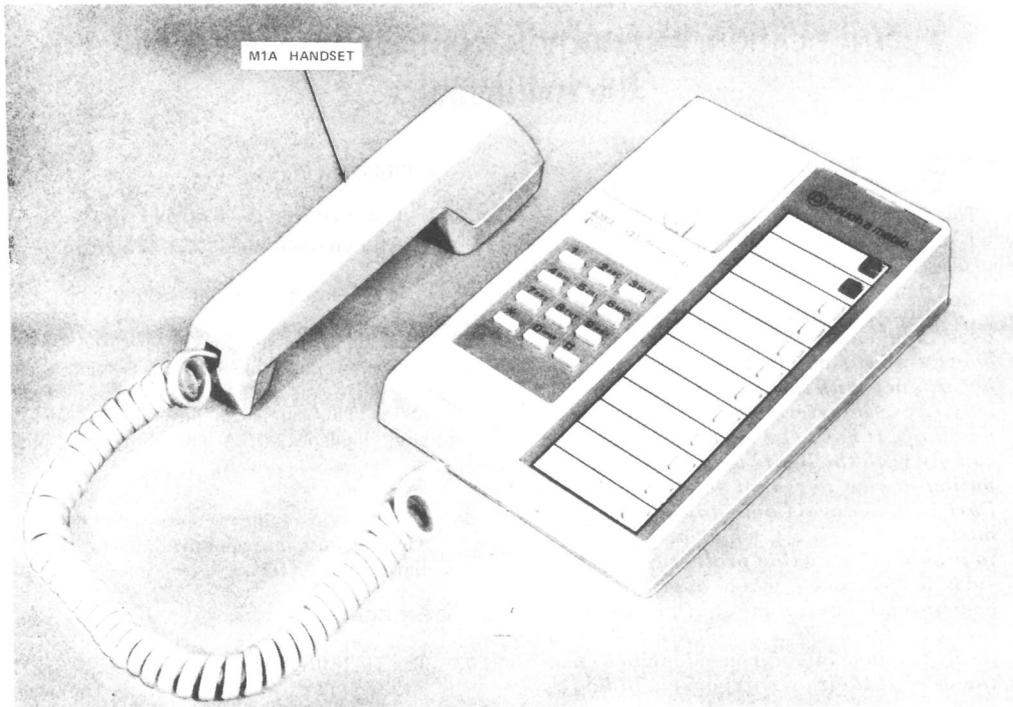

Fig. 1—5001T01A Telephone Set
1.01 This section contains information on the TOUCH-A-MATIC telephone S series, 12-button, desk-type set (Fig. 1 and 2).